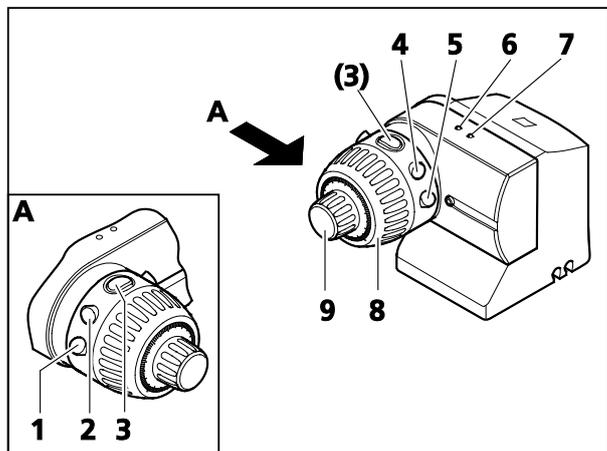

Fig. 27 Control unit on the MaRC
- Control of the focus motor by coarse (Fig. 27/8) and fine drive (Fig. 27/9)
- Travel to zoom clickstop positions by briefly pressing keys **1** and **2** (Fig. 27/1 and 2).
- Quick zoom – press keys **1** and **2** (Fig. 27/1 and 2).
- Quick zoom – press keys **4** and **5** (Fig. 27/4 and 5).
- Save a focus position – key **3** (Fig. 27/3), see also Section 4.2.6, page 42.
- Travel to a pre-saved position – key **3** (Fig. 27/3), see also Section 4.2.7, page 42.
- Reversing rotation of the MaRC unit – key **3** (Fig. 27/3), see also Section 4.2.8, page 42.
- Green control lamp (Fig. 27/6) for visual confirmation of an input or acceptance of a setting (corresponds to acknowledgement signal).
- Blue control lamp (Fig. 27/7) indicates readiness of the MaRC.
If a focus motor ready for operation is connected, the blue LED (Fig. 27/7) will light up.
The focus motor can be controlled quickly or slowly by turning the coarse (Fig. 27/8) and fine drive (Fig. 27/9).
When key **1** or **2** (Fig. 27/1 or 2) is briefly pressed ( $\leq 200$  ms), the zoom body will travel to the next lower or higher clickstop position.
When key **1** or **2** (Fig. 27/1 or 2) is pressed for  $> 200$  ms the zoom body will start moving; it will not stop until the respective key is released or the limit position is reached.
When key **4** or **5** (Fig. 27/4 or 5) is pressed the motor control will start to move upwards (**5**) or downwards (**4**); it will not stop until the respective key is released or the limit position is reached.
The current focus position will be stored when key **3** (Fig. 27/3) is pressed for between 2 and 5 seconds.
The green LED (Fig. 27/6) will briefly light up and **one** short beep tone on the motorized focusing system issued to indicate completion of the storing process after 2 seconds.
When key **3** (Fig. 27/3) is pressed for < 2 seconds the motor will travel to the stored focus position.
The direction of rotation will be reversed if key **3** (Fig. 27/3) is pressed for more than 5 seconds.
While pressing, first of all a **single** beep tone, then **two** tones will be issued and the green control lamp (Fig. 27/6) will flash once or twice. This indicates that the reversal has been completed.